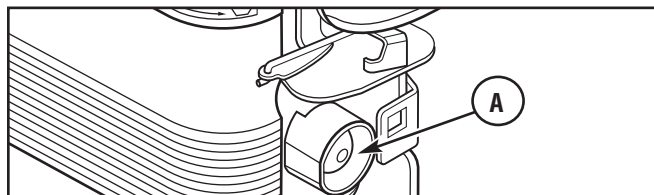

Figure 20 — Engine Primer Bulb
- Push primer bulb (A) firmly 5 times, waiting 2 seconds between each push (Figure 20).